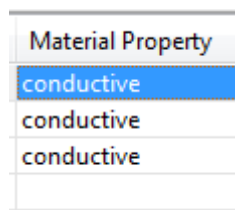

Figure 2. Created column of type material property
- Click **Finish** button to create a column. The column of the specified type appears in the table. (see Figure 2).